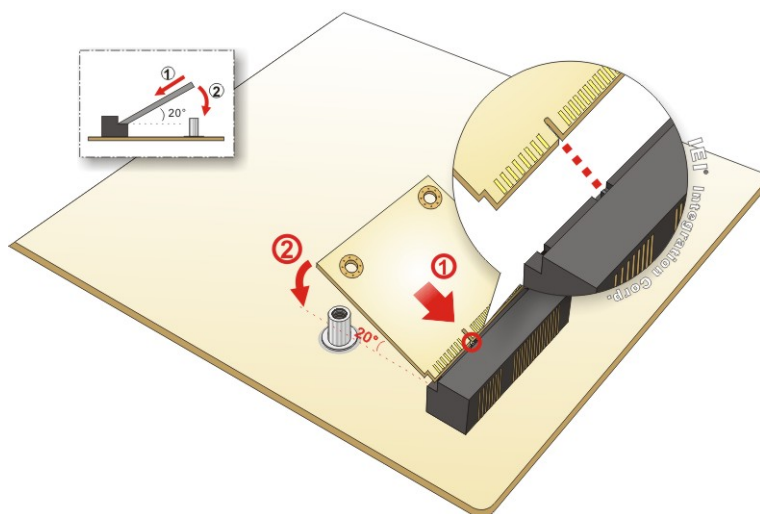

Figure 4-8: Inserting the Half-size PCIe Mini Card into the Slot at an Angle
Step 3: Line up the notch on the card with the notch on the slot. Slide the PCIe Mini card into the slot at an angle of about 20° (**Figure 4-8**).